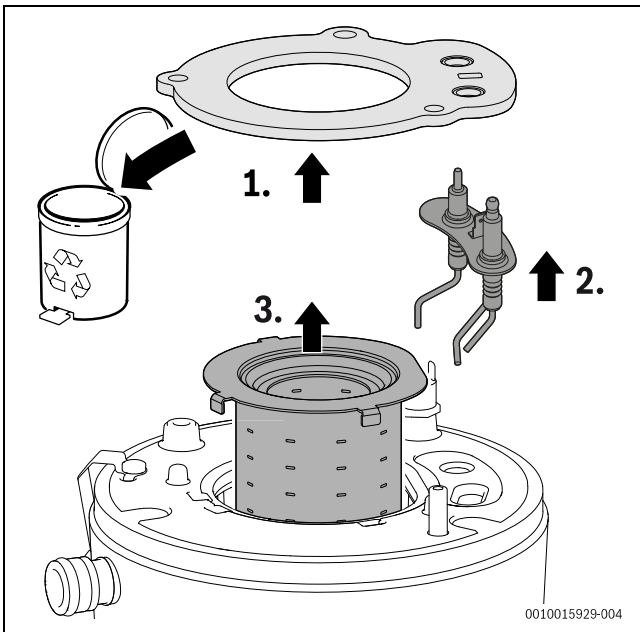

Fig. 75 Removing the burner
- ▶ Each time the burner is opened, replace the burner gasket (→ Fig. 75, item [1]) and all other gaskets affected by the measure.